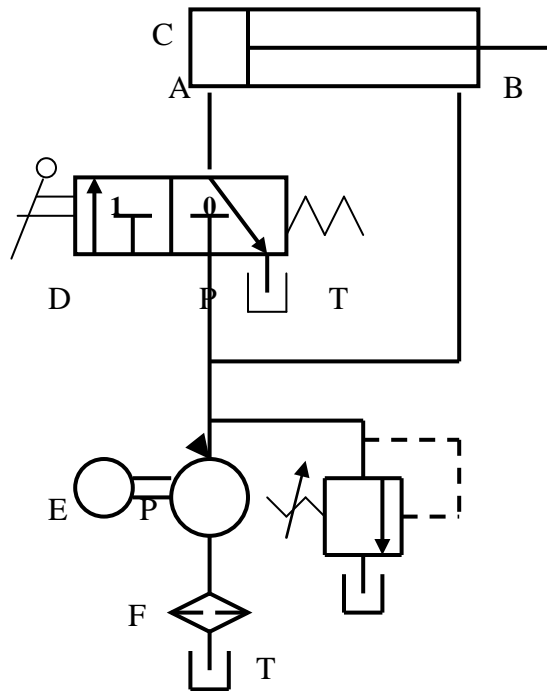

Fig 5.5. Regenerative circuit.
Figure 5.5 shows a regenerative circuit that is used to speed up the extending speed of a double-acting hydraulic cylinder. Here the pipelines to both ends of the hydraulic cylinder are connected to pump, one end (A) through the 2 / 3 way DCV and the other end (B) directly. The operation of the cylinder during the retraction stroke is the same as that of a regular double-acting cylinder. Fluid flows through the DCV zero position from the actuator A side during retraction. In this position, fluid from the pump directly enters the rod end of the cylinder (direct connection). Fluid in the blank end drains back to the tank through the DCV as the cylinder retracts.